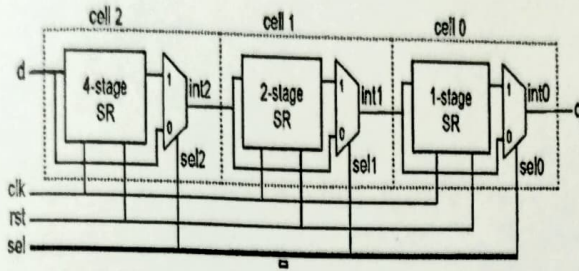

Fig.3. Tapped delay
6. Write a Structural VHDL code to model Tapped delay line given below in Fig.3.